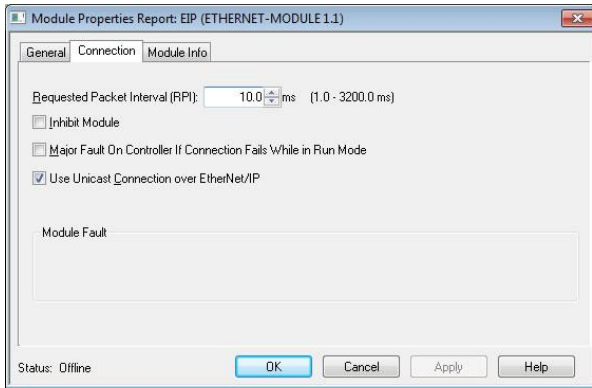

Figure 36: Module Properties Connection Tab
- 5) You should now see the new module (named “ETHERNET-MODULE Interface_Card”) in the 1756-ENBT/A branch under the I/O Configuration in the controller organizer view. Right click on this new module, choose “Properties”, and select the Connection tab. Refer to Figure 36.